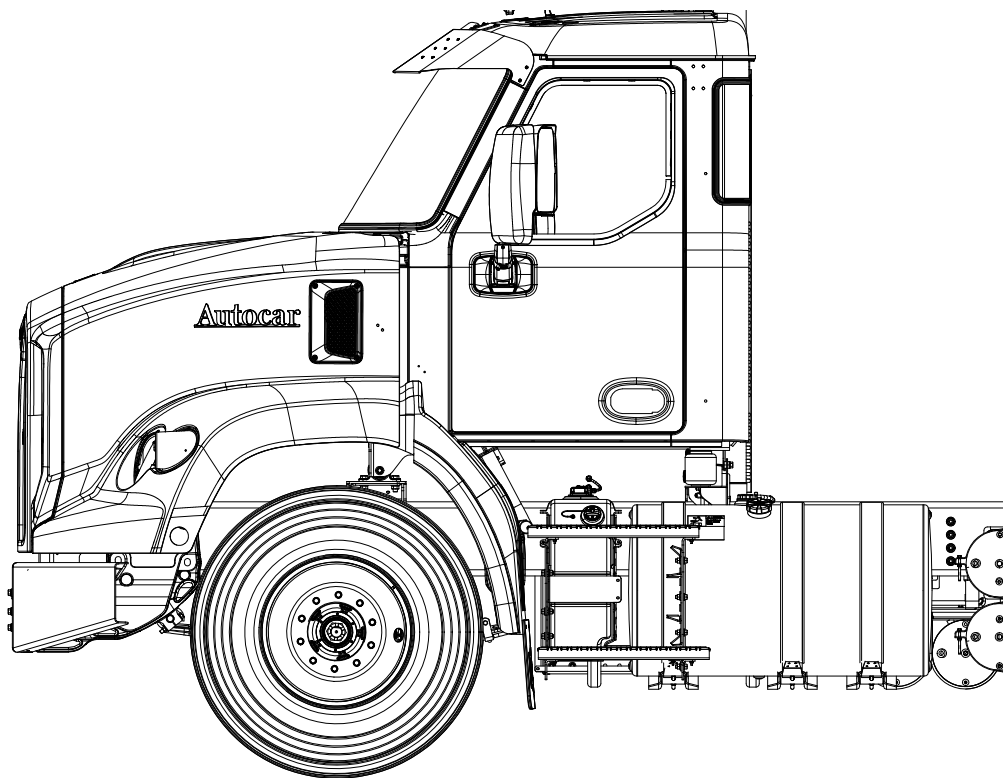

Figure 5
1. Unlock and open the left door (see *Figure 5*).